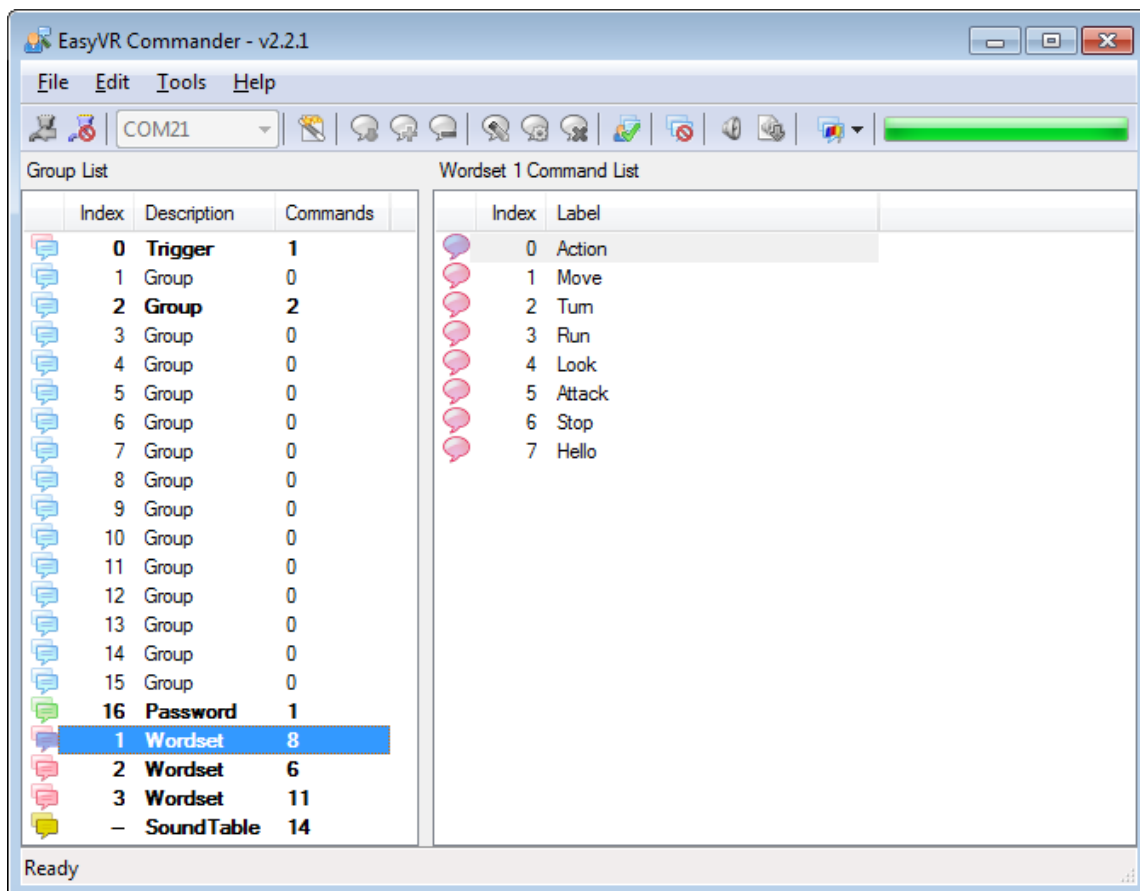
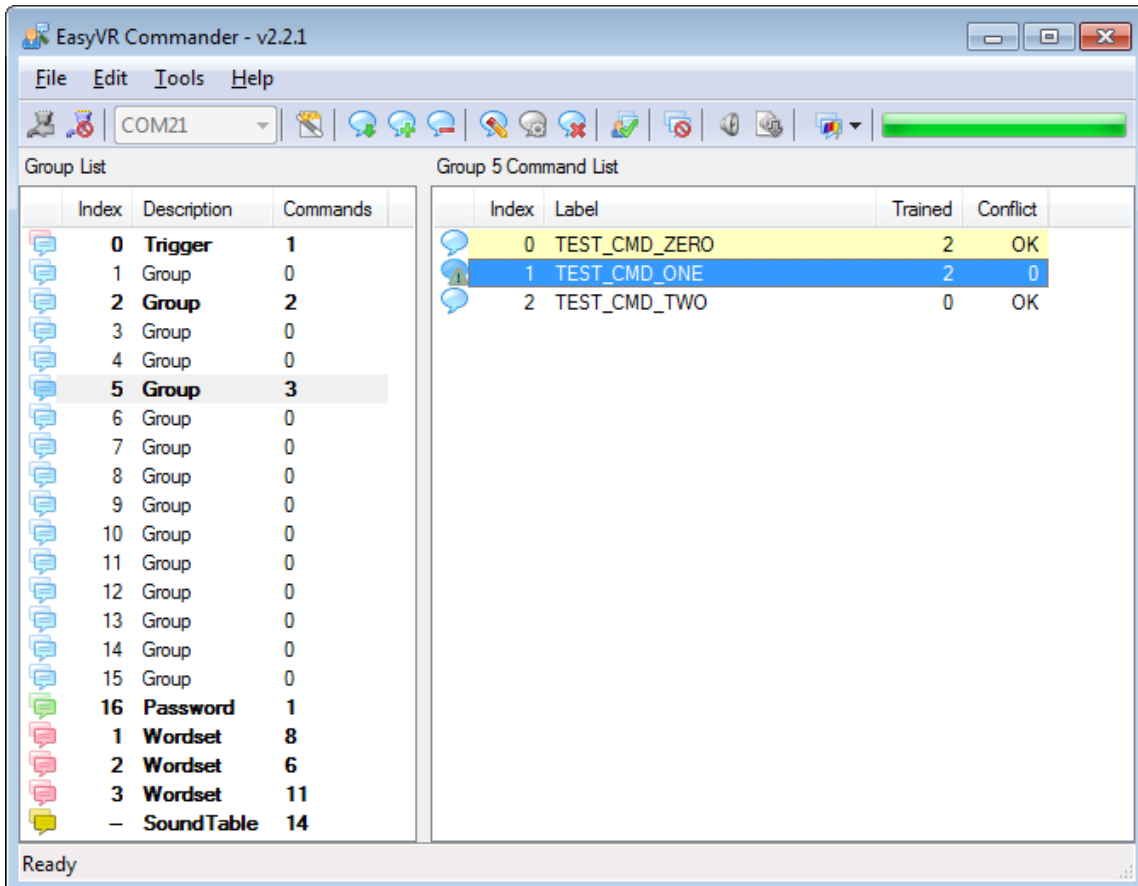

Figure 3 – Main application window
Figure 6 – Conflicting commands
There are four kinds of commands in the software (see Figure 3 and Figure 6):
- **Password** - a special group for "vocal passwords" (up to five), using Speaker Verification (SV) technology
- **Wordset** - built-in set of SI commands (for instance in Figure 3 above, the Wordset 1 is selected)
The software will also alert if a command is too similar to an existing one by specifying the index of the conflicting command in the "Conflict" column. For example, in the following Figure 6 the command